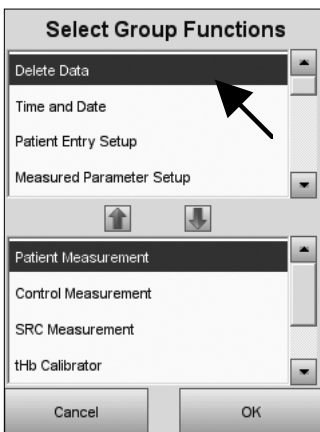

Fig. 3-63 Group Functions
- The top half of the **<Select Group Functions>** screen (Fig. 3-63) displays all available options, the bottom half shows the selected options.